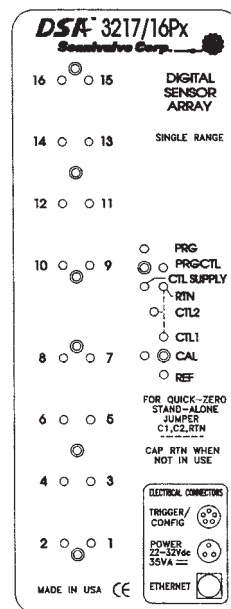

FIGURE 2.1 - DSA3217/16Px TOP PANEL
The basic DSA3217/16Px module provides 16 channels of the same ‘gauge’ pressure range sensors. These 16 pressure transducers are configured into two (2) groups of eight (8) each. Each group of eight (8) transducers shares a common calibration valve and a common reference manifold. Single range modules tie the two reference manifolds together and the two calibration valves to provide the user with a single reference and a single calibration port to connect to. Figure 2.1 depicts the top panel of a standard DSA3217/16Px.